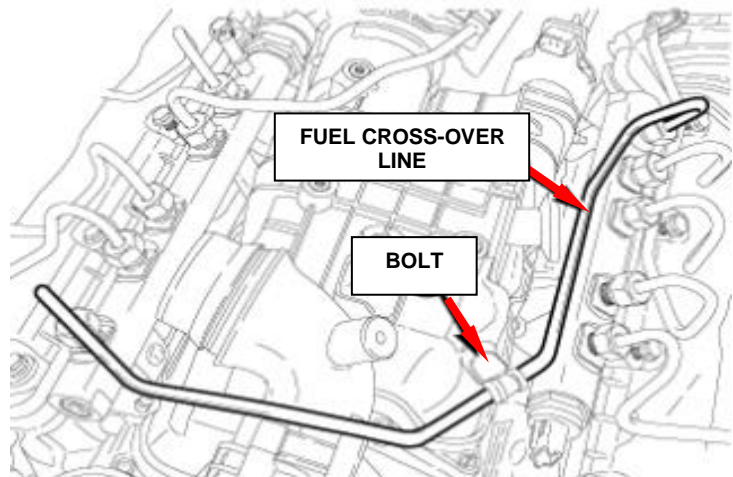

Figure 15 – Fuel Cross Over Line
17. Remove the bolt that secures the fuel cross-over line to the intake manifold (Figure 15).
18. Remove the fuel rail cross-over line and **DISCARD** the line (Figure 15).
17. Install the fuel line bracket and tighten the nut to 8 N·m (71 in. lbs.) (Figure 15).
19. Install the **NEW** cross-over fuel tube and tighten the union nuts finger tight (Figure 15).